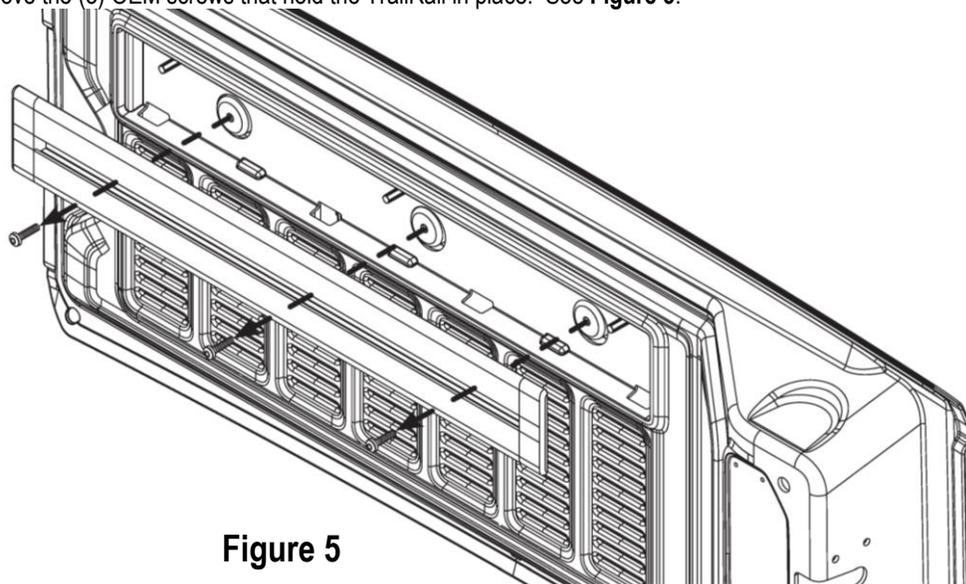

**Figure 4**
6. While holding the #365 Storage Box in place, insert the mounting hardware through the mounting holes of the #365 Storage Box in the sequence shown in **Figure 4**. #1.3 Screws (2") are used in the upper mounting holes, and #1.5 Screws (2 3/8") in the lower holes. **NOTE: This step is most easily accomplished with help, or another means of supporting the lockbox at the correct elevation.**